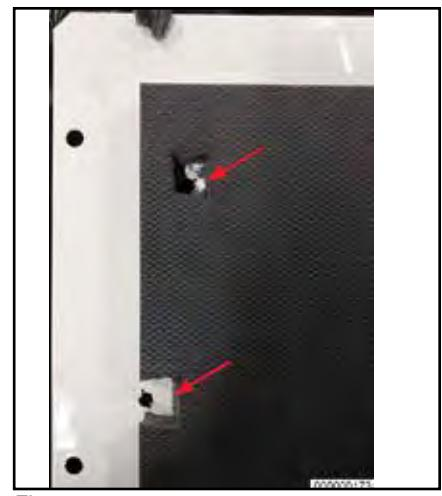

Figure 3
- Step 10: Flip rear panel over. Using scissors or safety knife, remove approximately 1 inch square of foam insulation from around each mounting hole as shown. (Figure 3)